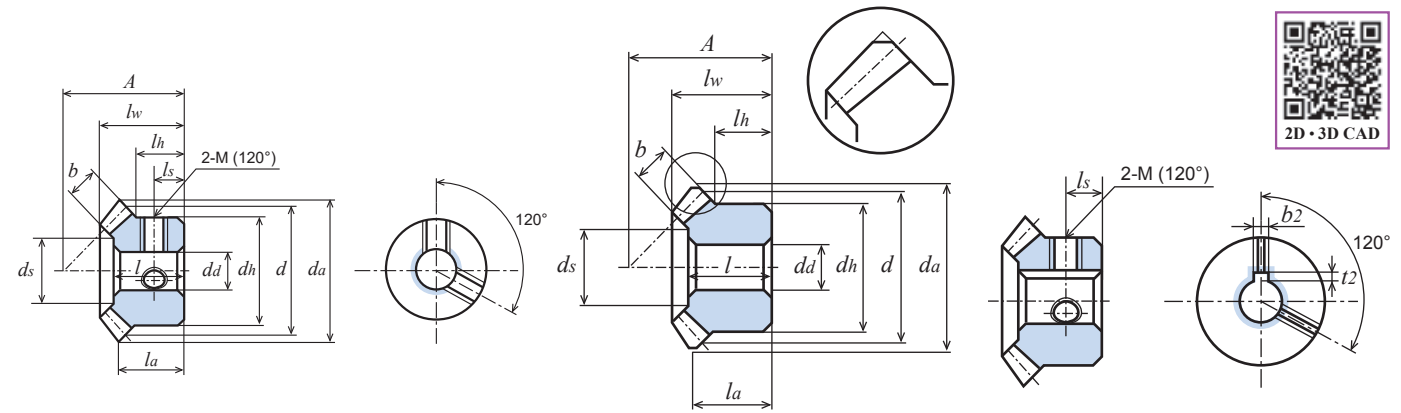

Fig. 1 (Tip chamfering)
- ★ The values in parentheses below "Tip diameter da" are theoretical values. The actual maximum diameter is the value obtained after the teeth are chamfered parallel to the shaft center. (See Fig. 1.)
- ① This is a theoretical value obtained when a pair of gears of the same type and material are meshed with each other.